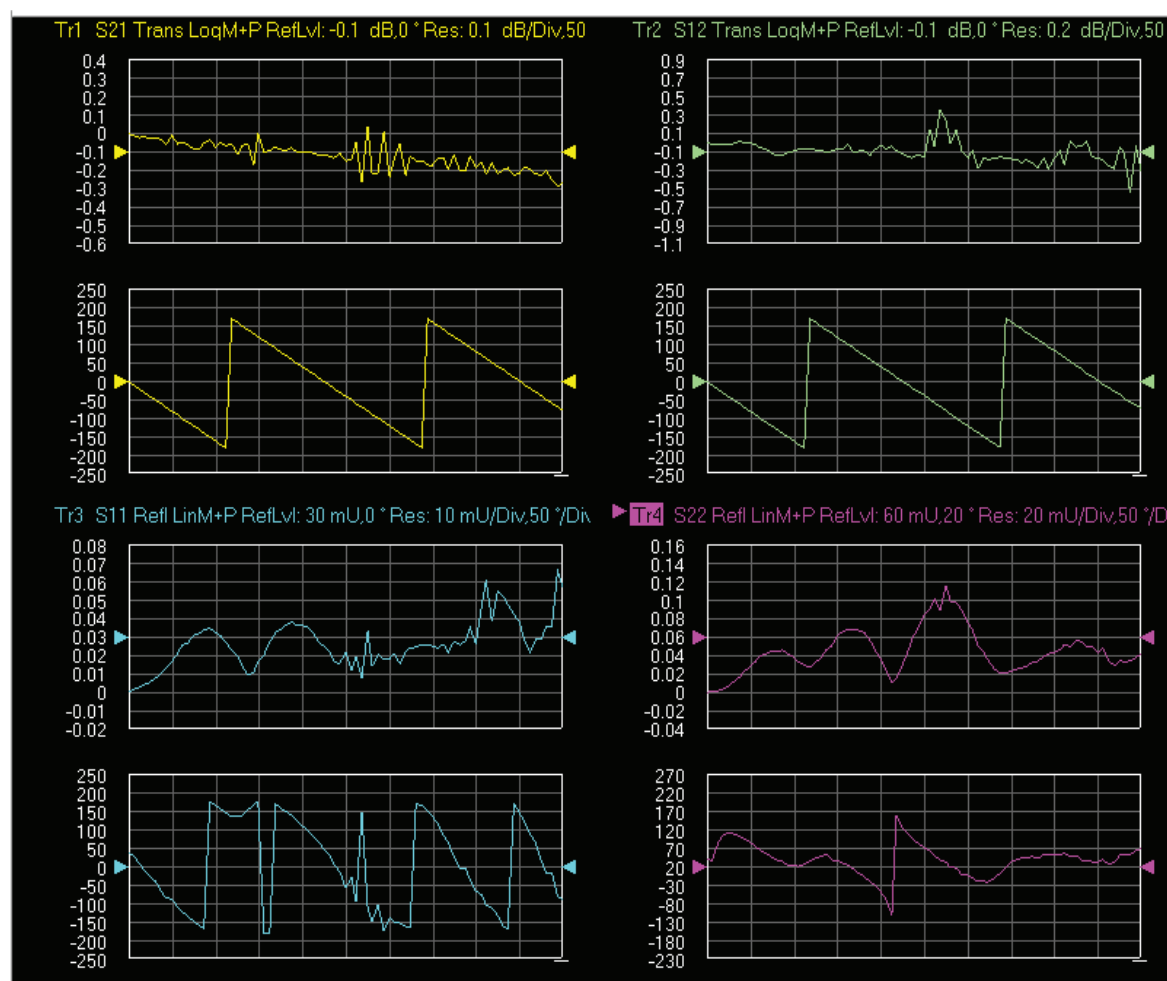

Figure 5-49. MS4640A/B Series VNA, Typical Matched Thru Data in Low Band
8. When the test completes, the next action depends on what the user selected in the Main Menu tab. The VNA main display should be similar to the one in Figure 5-49. This is a typical display immediately after measuring the Matched Thru in the Low Band. Please note this is for reference only and that the actual data on the VNA display may not be identical